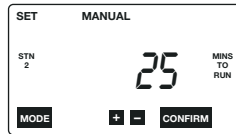

Figure 11
- Push CONFIRM button to confirm the selected station to water. MINS TO RUN will show with two digits or “-” flashing. (See Figure 11)